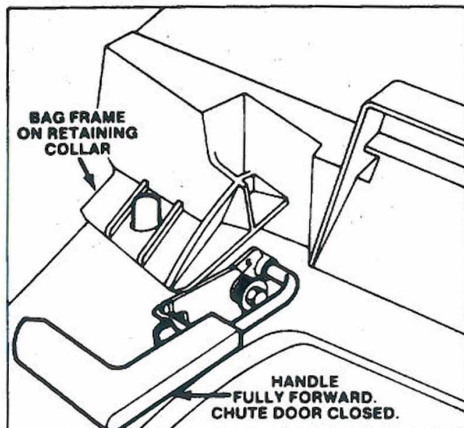

Figure 5
**MULCH** — In summer, when grass grows slower and is drier, mulch by closing chute door (Fig. 5). For convenience and protection, keep grass bag on mower.
5. **EMPTYING BAG** — Release control bar and wait for blade to stop. Move chute door handle forward to engage the locking pin with catch (Fig. 5). Grasp handle at front and rear of bag and lift bag off mower. For protection, always keep hands and feet away from mower housing because engine is running. Gradually tip bag forward to empty clippings.